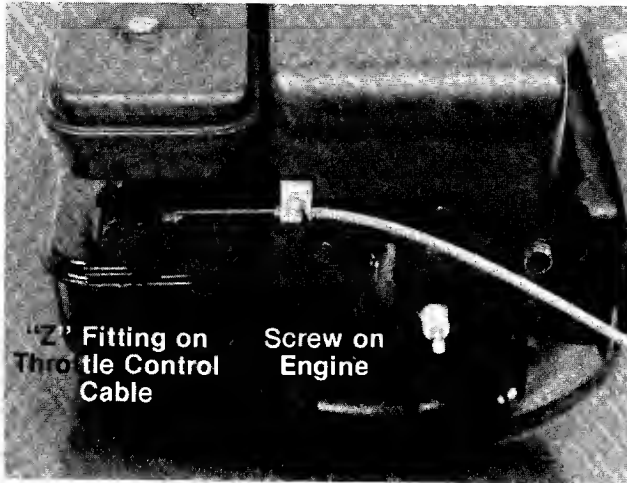

FIGURE 15.
6. Disconnect the throttle control cable from the engine by loosening screw on engine and disconnecting the "Z" fitting. See figure 15.